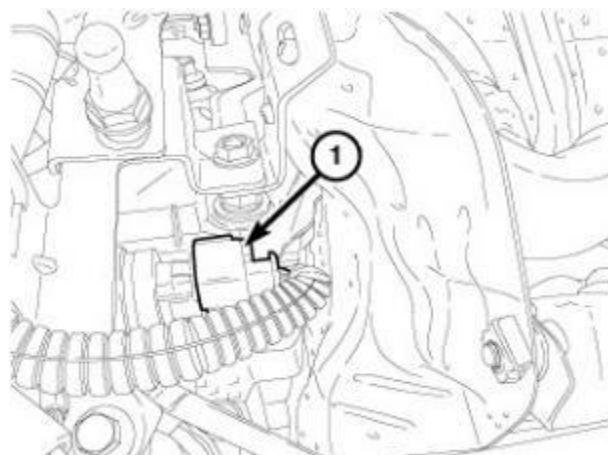

Figure 32 – Fuel Rail Pressure Sensor Connector
39. Disconnect the right fuel rail pressure sensor wire harness connector (1) (Figure 32).